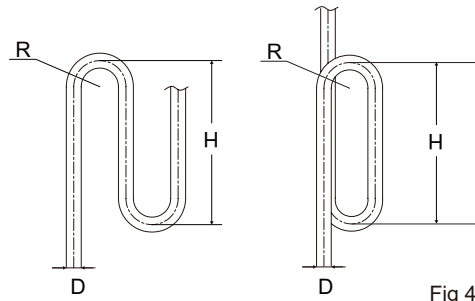

Fig 4.11
- When the outdoor unit is above the indoor unit, and the level difference exceeds 20 m, it is recommended that an oil return bend be set up at every 10 m interval on the gas pipe of the main piping. The recommended specifications of the oil return bend are as shown in figure 4.11.
3. Requirement 3: The largest level difference between indoor unit and outdoor unit should not exceed 50m (if the outdoor unit is above) or 40m (if the outdoor unit is below). Additionally: If the outdoor unit is above and the level difference is greater than 20m, it is recommended that an oil return bend with dimensions as specified in Figure 4.11 is set every 10m in the gas pipe of the main pipe.